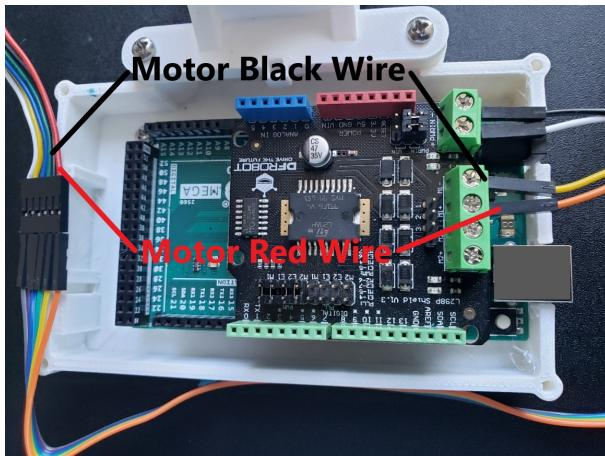

Figure 5: Motor power connections.
8. Connect the remaining 6 jumper wires into the motor wiring harness as shown in Figure 5.
9. Motor power connections: the jumper wire connected to the red wire coming from the motor is connected to `M1+` on DRI0009 (`B/-` on A000079) and the jumper wire connected to the black wire coming from the motor is connected to `M1-` on DRI0009 (`B/+` on A000079). See Figure 5.